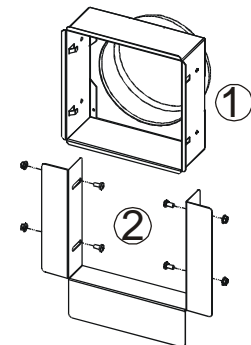

Figure 2– Kit installation
4. on the inner part of the wall, at the structure of the air outlet (1), attach the fastening bracket group (2), using the four screws and nuts provided (fig.2)